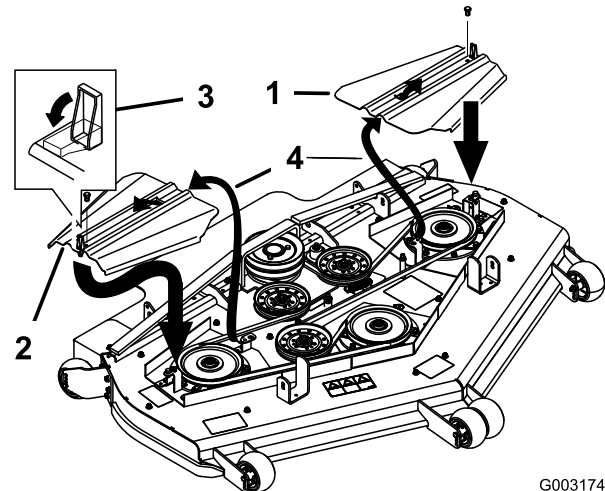
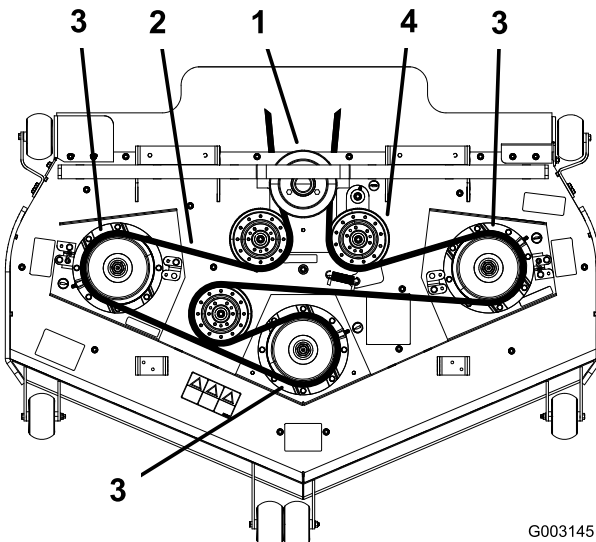

Figure 54
Figure 55
- Remove the mower belt from the mower pulleys and the bottom pulley of the three stacked pulleys (Figure 54 and Figure 55).
- Install the new belt around the mower pulleys and the bottom pulley of the three stacked pulleys (Figure 54 and Figure 55).
- Pull on the spring loaded idler arm to loosen the belt tension and align the mower belt onto the idler pulley (Figure 55).
- Install the belt covers with the tabs in the slots. Install the screws and close the latches (Figure 54).
- Remove the screws and belt covers (Figure 54).